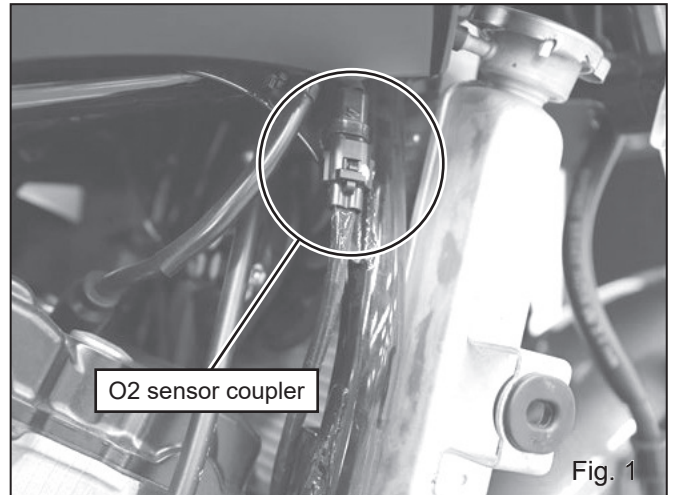

Fig. 1
- 3) Disconnect O2 sensor coupler. Then, remove stock exhaust system from vehicle (See Fig. 1 & 2).